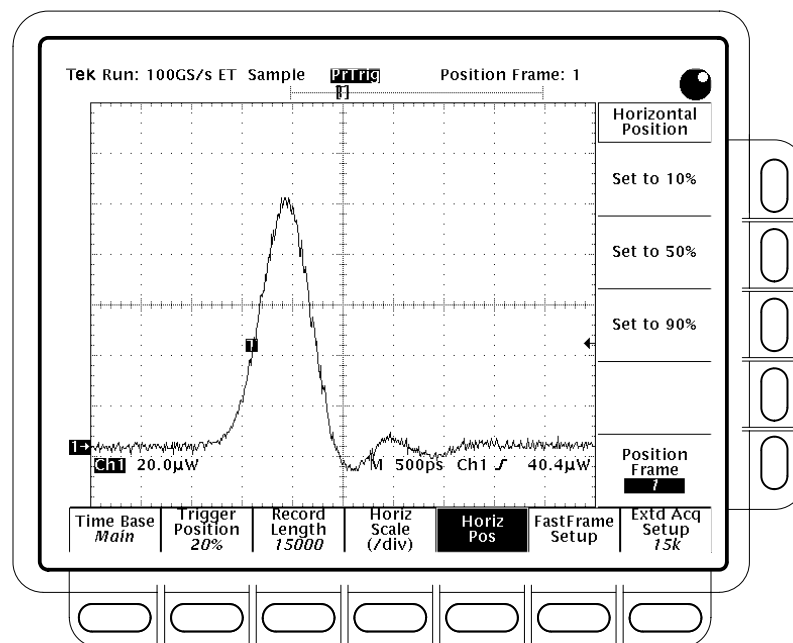

Figure 1–44: Optical impulse of Ch1 input from OA5022 Optical Attenuator (OIG501 / OIG502 fed into optical attenuator in Step 1)
- Adjust the **HORIZONTAL POSITION** to move the 20% trigger point onto the display (see Figure 1–44).